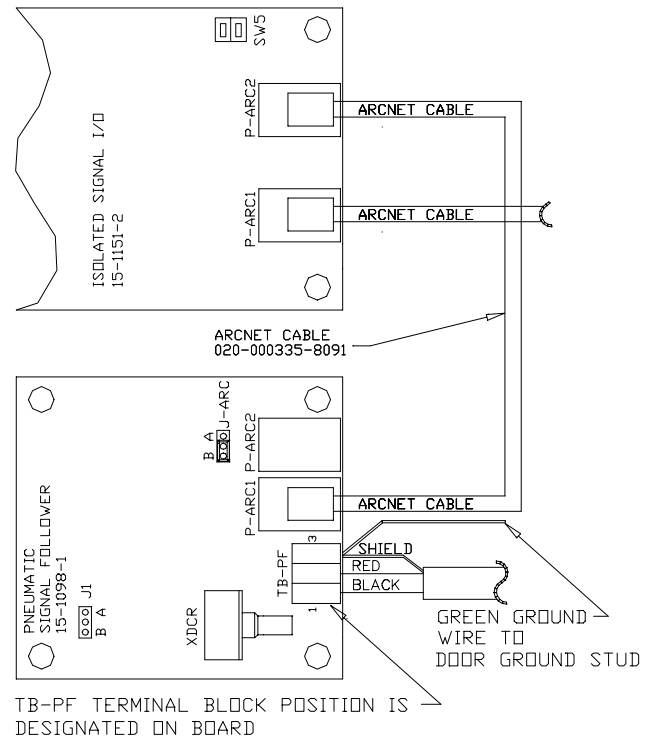

Figure 4
1. Prepare one end of the 2-conductor shielded cable (item 17) by stripping 3 inches of the outer insulation exposing the black and red wires along with the shield. Cut away foil. Cover the end of the outer insulation with heat shrink tubing.
2. Connect the stripped end of the 2-conductor shielded cable to TB-PF of the 3-15 PSIG Follower board as shown in Figure 4. Connect the green ground wire (item 13) and the shielded wire with sleeve tubing (item 15) to TB-PF-3. Route the green wire to the door ground stud and attach it by using the ring lug (item 14).
6. Plug one end of the Arcnet cable (item 12) into PARC-1 of the 3-15 PSIG Follower board. Arcnet cable (item 11) is not required with this configuration. Connect the other end of the arcnet cable into PARC-2 of the Isolated Process Follower board as shown in Figure 4.